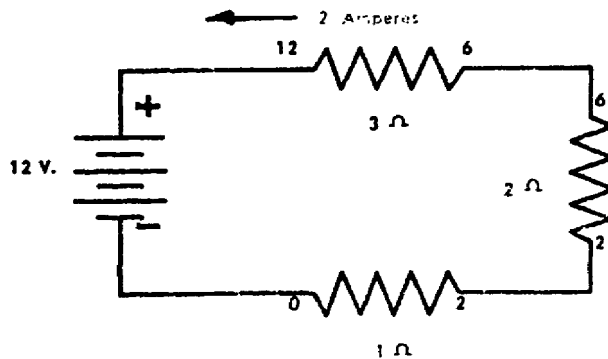

Figure 4. Series circuit.
f. When three resistors are connected to a battery as shown in figure 4, the total circuit resistance is six ohms. In applying Ohm's law to the entire circuit, the current flow through each resistor is two amperes. Applying Ohm's law to the one-ohm resistor, the voltage drop across the resistor is two volts. The voltage potentials across this resistor and the other resistors are shown. Note that electron current flow is shown in figure 4. Negative charges are assumed to flow from the negative terminal of the battery, through the external circuit, and back to the positive terminal of the battery. There are three important things to remember about a resistor:
- (1) A resistor will limit current flow according to Ohm's law.
- (2) Voltage drop occurs across each resistor according to Ohm's law.
- (3) The voltage drops across the resistors determine the potentials on each side of the resistors.